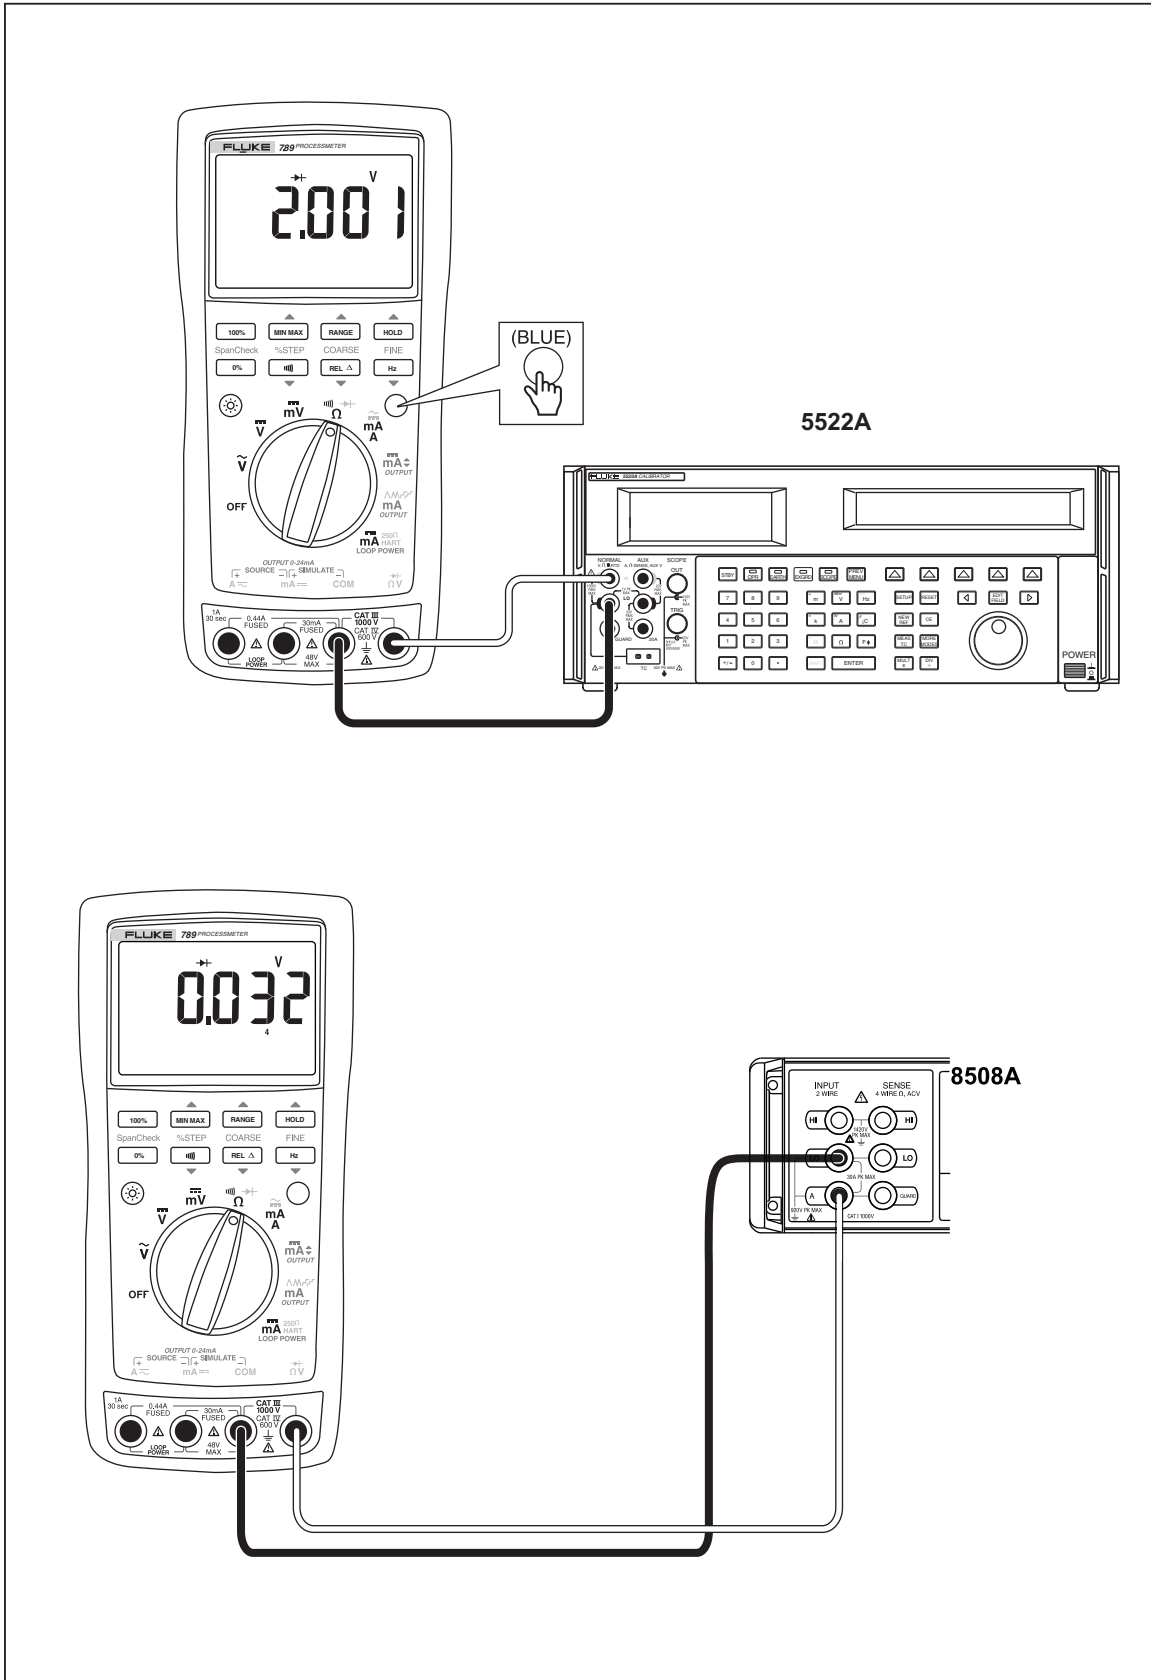

Figure 5. Diode Test Connections
4. Connect the calibrator to the **COM** and  $\Omega \rightarrow$  terminals on the UUT as shown in Figure 5.